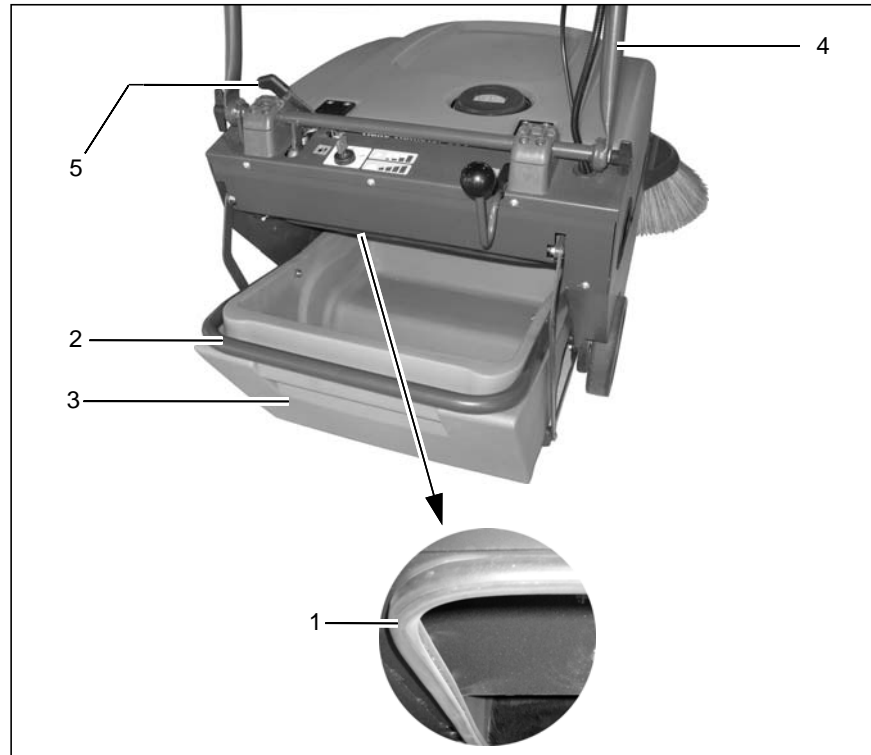

Fig. 24
1. Switch the machine off and move the lever (Fig. 24/5) for locking the dirt hopper to the right (looking in drive direction) and, at the same time, pivot the handlebar (Fig. 24/4) for-wards. The frame (Fig. 25/2) of the dirt hopper is lowered.
The engine must be at a standstill before the dirt hopper (Fig. 24/3) is removed. Risk of injury through swirling waste and dust!
2. Hold the dirt hopper (Fig. 24/3) by the handle (Fig. 24/2) and pull it to the rear and out of the machine
Check the fill level of the dirt hopper (Fig. 24/3) regularly and empty it regularly and as necessary.
1. Insert the dirt hopper (Fig. 24/3) back in the machine from the rear until they perceptibly engage in the frame (Fig. 25/2).
2. Pivot the handlebar (Fig. 24/4) towards the rear until the lever (Fig. 24/5) for locking the dirt hopper audibly engages.
Clean the panel air filter (Fig. 24/5) in the dust vacuum regularly and as necessary using the shaking device:
1. When the engine is switched off, pull/push the lever (Fig. 24/9) of the shaking device quickly, several times.
1. Unlock the hood (Fig. 24/7) using a square wrench and open the hood (Fig. 24/7).
Ensure the engine has stopped before opening the hood (Fig. 24/7). Risk of injury through belt drive and rotating fan (Fig. 24/3)!
2. Release the top filter cover locks: Unscrew the knurled screws (Fig. 24/1) from the threaded pins (Fig. 24/4).
3. Release the bottom filter cover locks: Pivot the hinged locks (Fig. 24/6) outwards.
4. Remove the filter cover (Fig. 24/8).
5. Remove the panel air filter (Fig. 24/5).
1. Drop the panel air filter (Fig. 24/5) a few times from a small height onto a level, solid surface. Be careful not to damage the filter ribs!
The ground must not have any surface irregularities. Do not drop the panel air filter (Fig. 24/5) onto the ground at a slant.
Never install panel air filters (Fig. 24/5) which have damaged filter ribs!
If the panel air filter (Fig. 24/5) is removed, check the self-adhesive sealing strips (Fig. 24/2) for signs of damage. Damaged sealing strips (Fig. 24/2) must be replaced:
1. Pull off the damaged sealing strips (Fig. 24/2).
2. Clean any residual adhesive from the surfaces on which the sealing strips (Fig. 24/2) must be adhered.
3. Adhere the new sealing strips (Fig. 24/2).
1. Insert the thoroughly cleaned or new panel air filter (Fig. 24/5) from the correct side in the filter support frame.
Pay attention to the labeling on the side of the panel air filter (Fig. 24/5)!
2. Replace the filter cover (Fig. 24/8).
3. Close the bottom filter cover locks: Pivot the hinged locks (Fig. 24/6) over the edge of the filter cover (Fig. 24/8).
4. Close the top filter cover locks: Screw the knurled screws (Fig. 24/1) on the threaded pins (Fig. 24/4).
5. Close the hood (Fig. 24/7) so that it audibly locks.
5. Check whether dust has accumulated on the inner side of the panel air filter (Fig. 24/5).
Do not open the hood (Fig. 24/7) when the engine is running. Risk of injury through belt drive and rotating fan (Fig. 24/3)!
1. When the engine is switched off, hood (Fig. 24/7) is open and filter cover (Fig. 24/8) removed, check whether dust escapes at the edges of the panel air filter (Fig. 24/5).